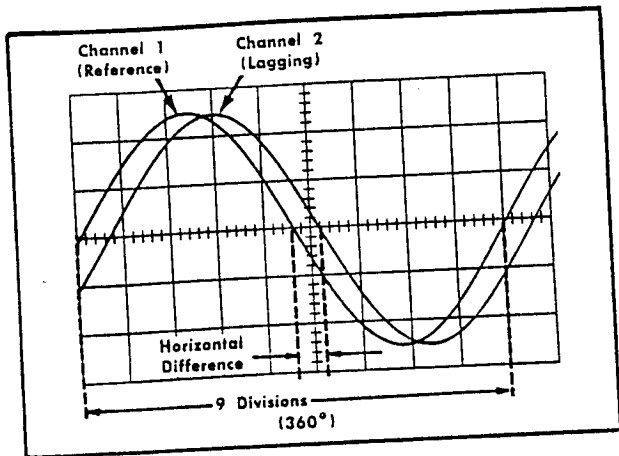
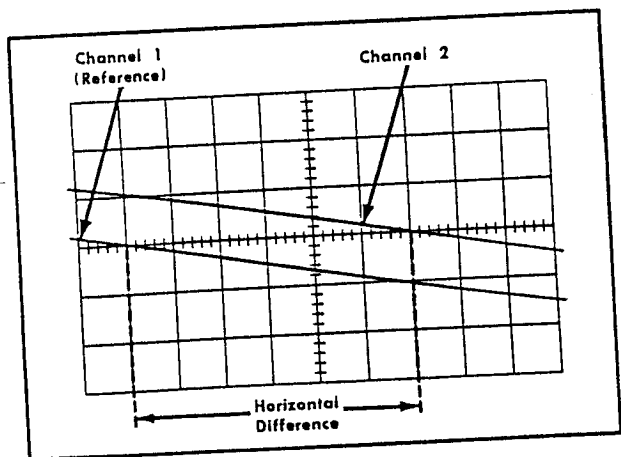

Fig. 2-22. Measuring phase difference.
Fig. 2-23. Accurate phase-difference measurement with increased sweep rate.
10. Turn the A VARIABLE control until 1 cycle of the reference signal (Channel 1) occupies exactly 9 divisions horizontally (see Fig. 2-22). Each division of the graticule represents  $40^\circ$  of the cycle ( $360^\circ \div 9 \text{ divisions} = 40^\circ / \text{division}$ ). This is the phase factor.
**Example.** Assume a horizontal difference of 0.6 divisions with a phase factor of  $40^\circ$  as shown in Fig. 2-22.
**Example.** If the sweep rate were increased 10 times with the magnifier, the adjusted phase factor would be  $40^\circ \div 10 = 4^\circ/\text{division}$ . Fig. 2-23 shows the same signals as used in Fig. 2-22 but with the MAG switch set to  $\times 10$ . With a horizontal difference of 6 divisions, the phase difference would be: